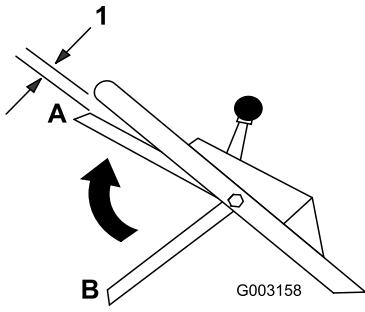

Figure 22
- Lift the control bar up to about 1 inch (2.5 cm) below the handle; refer to position A in Figure 22.